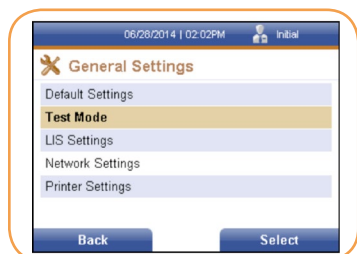

FIGURE 20
4. Once all information has been entered, select the right soft key to accept the information, or the left soft key to discard any changes made. Either selection will return the user to the previous menu (Figure 20).